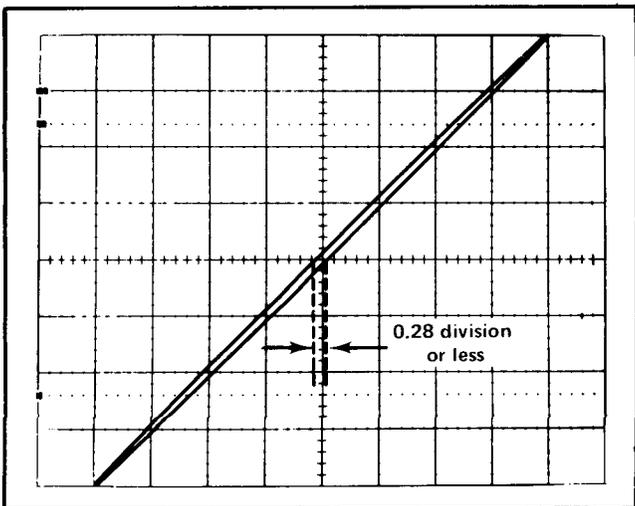

Fig. 3-7. Typical CRT display when checking X-Y phase shift.
e. CHECK—CRT lissajous display for an opening at the center vertical line of 0.28 division or less (indicates 2° or less phase shift; see Fig. 3-7).